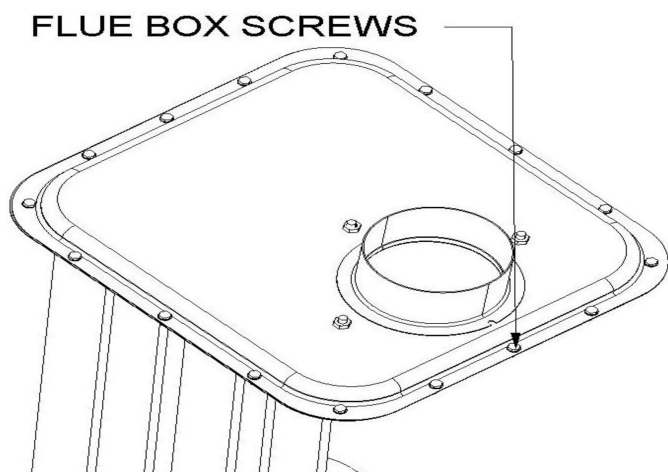

Figure 13: Flue Box Cover Screws
10. Remove the sixteen (16) screws from the flue box cover. Do not mix these screws with the other screws as these are stainless because of the heat. Refer to Figure 13 for screw locations.